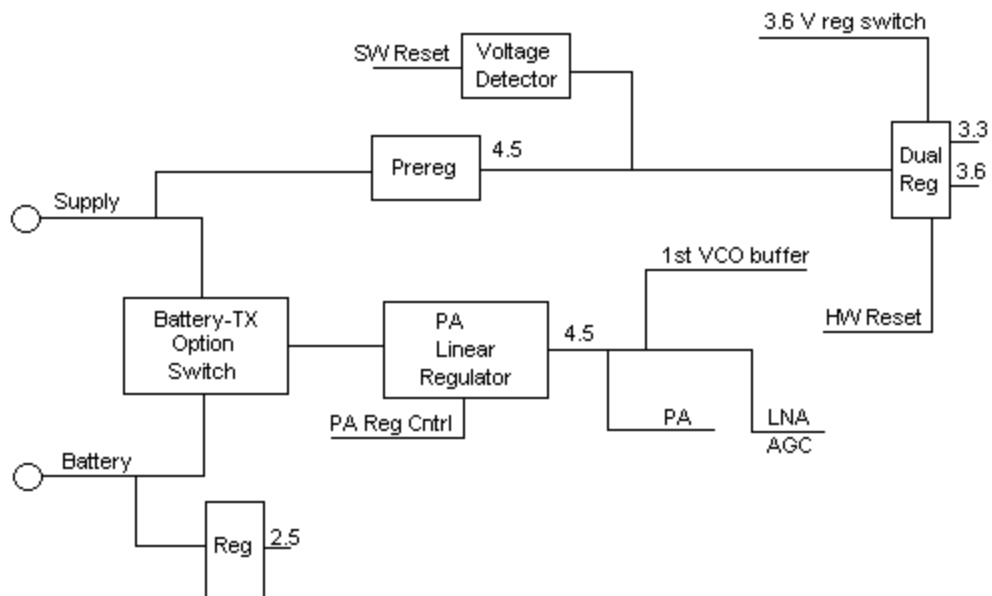

Figure 1. ReFLEX 50 Power Management
- Power management architecture for improved thermal operation and higher maximum operating voltage (see Figures 1 and 2). Transmit spurs can be observed at ± 500 kHz offsets from the carrier. These spurs are due to the AM-to-PM conversion of the switching regulator's voltage ripple present at the supply connections of the transmitter power amplifier U770. U770 is a 3-stage amplifier IC.